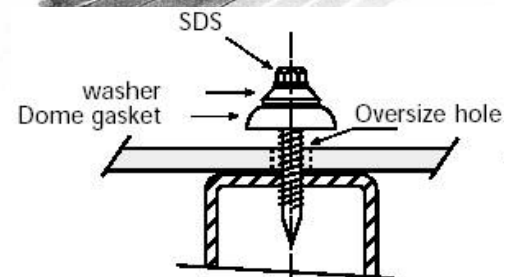

Figure 15. Basic Screw Fastening with Separate washers. Under the Glazing a Thin EPDM Strip Padding
- 2) Each bolt/screw would be equipped with a $\varnothing 30\text{-}40\text{mm}$ rigid metal (stainless/aluminum) washer, with a compatible shaped soft EPDM gasket under the bolt head, on top side of the glazing, to distribute the bolt's pressure and pad the fastener's surrounding. (fig.15)